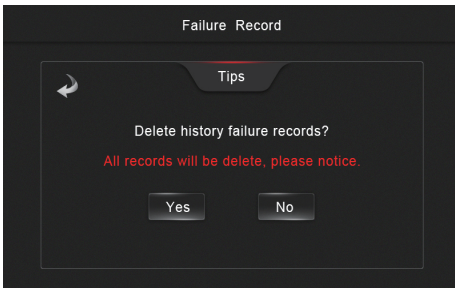

Fig.15-1 Delete history failure interface
3) In the Failure Record interface (Fig.14), press  to enter delete all the history failure records interface (Fig.15-1). Ordinary solution see 5.3.